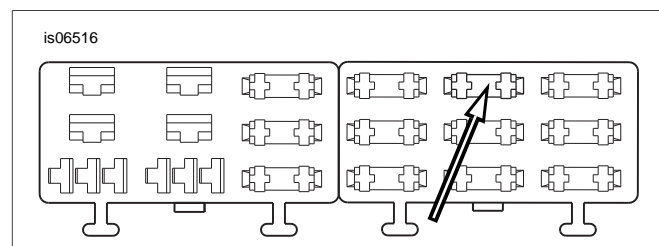

Figure 7. "P&A IGN" Fuse Block Cavity (2004-2010 Softail)
- See Figure 7. Locate the fuse cavity (1) labeled "P&A IGN" on the fuse block cover. There is a terminal in only one side of this cavity.